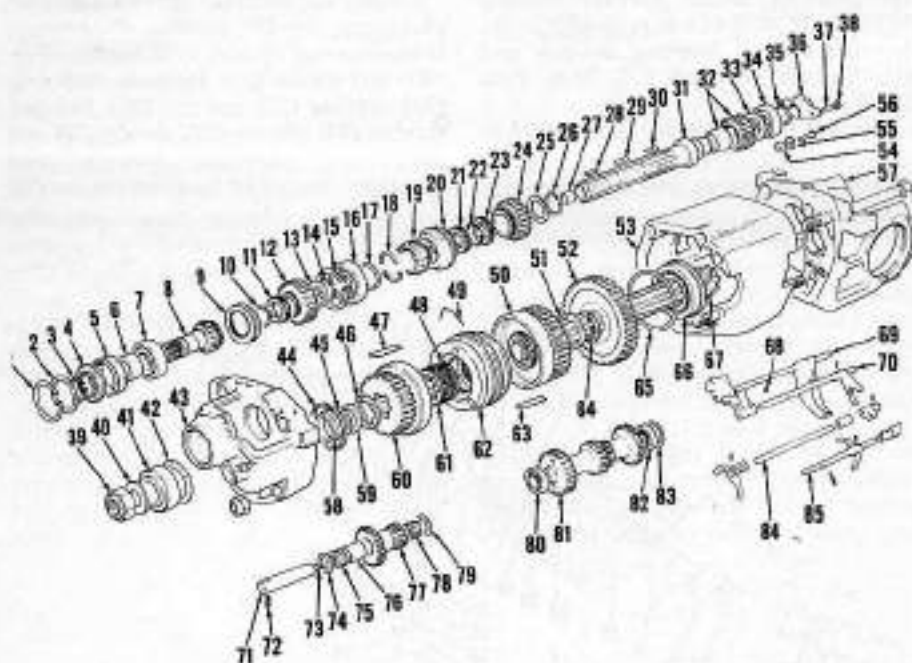

Fig. 161—Exploded view of 12 speed synchromesh transmission used on 1690 models.
**281. DISASSEMBLY.** Place transmission in a suitable transmission support stand and remove roll pins from slow/normal shift rod (84—Fig. 161) shift fork and selector jaw. Use a soft metal rod to drive shift rod toward rear of transmission just far enough to remove detent ball and spring. Remove slow/normal shift rod.
Remove roll pins from high/low shift rod (85—Fig. 161) shift fork and selector jaw. Drive shift rod toward rear of transmission just far enough to remove detent ball and spring, then remove shift rod and selector jaw.
Remove second/third shift rod (69—Fig. 161), shift fork, selector jaw, detent ball and spring and shift interlock plug (68).
To disassemble input gear (8—Fig. 161), remove snap ring (3). Press bearings (4 and 7) and spacers (5 and 6) off of input gear (8).
Remove retaining bolt (56—Fig. 161) and high/low shift fork from sliding gear (20). Remove input shaft using care not to lose retaining washer (54).
**284. INPUT SHAFT ASSEMBLY.** Press bushing (26—Fig. 161) into input shaft (31). Install snap ring (26), thrust washer (25), high range gear (24) and lubricate and install the six bearing pads (30) in input shaft splines under high range gear (24).
**285. PINION SHAFT ASSEMBLY.** With pinion shaft in position through rear end plate (57—Fig. 161), place first/reverse sliding gear (52) on first/reverse shift fork and rod assembly
**286. INTERMEDIATE SHAFT ASSEMBLY.** Install a 0.254 mm (0.010 inch) thick shim (83—Fig. 161) and bearing cup (82) in rear end plate (57). Install bearing cup (80) in front end plate (43). Install bearings (80 and 83) on intermediate shaft (81) and position intermediate shaft in rear end plate. Install center housing (53) and rotate housing until stud bolt holes in housing and rear end plate are aligned. Install stud bolts and front end plate (43). Install stud nuts and tighten nuts to 95 N·m (70 ft.-lbs.) torque. Mount dial indicator on center housing so probe contacts rear gear of intermediate shaft. Measure and note amount of end play in intermediate shaft.
**287. FRONT END PLATE ASSEMBLY.** Install bearings (75 and 78—Fig. 161) and spacer (76) in range idler gear (77). Bearing cages should both be slightly below end surfaces of range idler gear when installed. Spacer (76) may be carefully shortened, if
**288. PINION SHAFT BEARING PRELOAD.** Install all shims (45—Fig. 161) removed during disassembly **PLUS** an additional 0.254 mm (0.010 inch) thick shim. Install shoulder washer (58) with flat side against shims (45). Install bearing cone (41), washer (40) and nut (39). Note nut has left-hand threads and tighten to 271 N·m (200 ft.-lbs.) torque. Mark differential bearing caps and remove differential assembly. Mount dial indicator so probe contacts end of pinion shaft, then measure and note amount of pinion shaft end play.